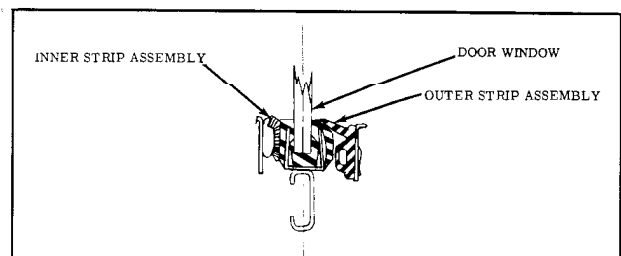

Fig. 15-23 Glass Run Channel Inner and Outer Strip Assemblies
2. With a screwdriver or other suitable flat-bladed tool, carefully pry up outer edge of strip assembly at clip locations and remove strip from door. (Fig. 15-23)